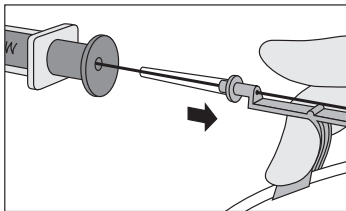

Fig. 9
- Raise your thumb and pull the Arrow Advancer™ approximately 4 cm to 8 cm away from the syringe. Lower thumb onto the Arrow Advancer™ and while maintaining a firm grip on the spring-wire guide, push the assembly into the syringe barrel to further advance the spring-wire guide. Continue until spring-wire guide reaches desired depth (refer to Fig. 9).